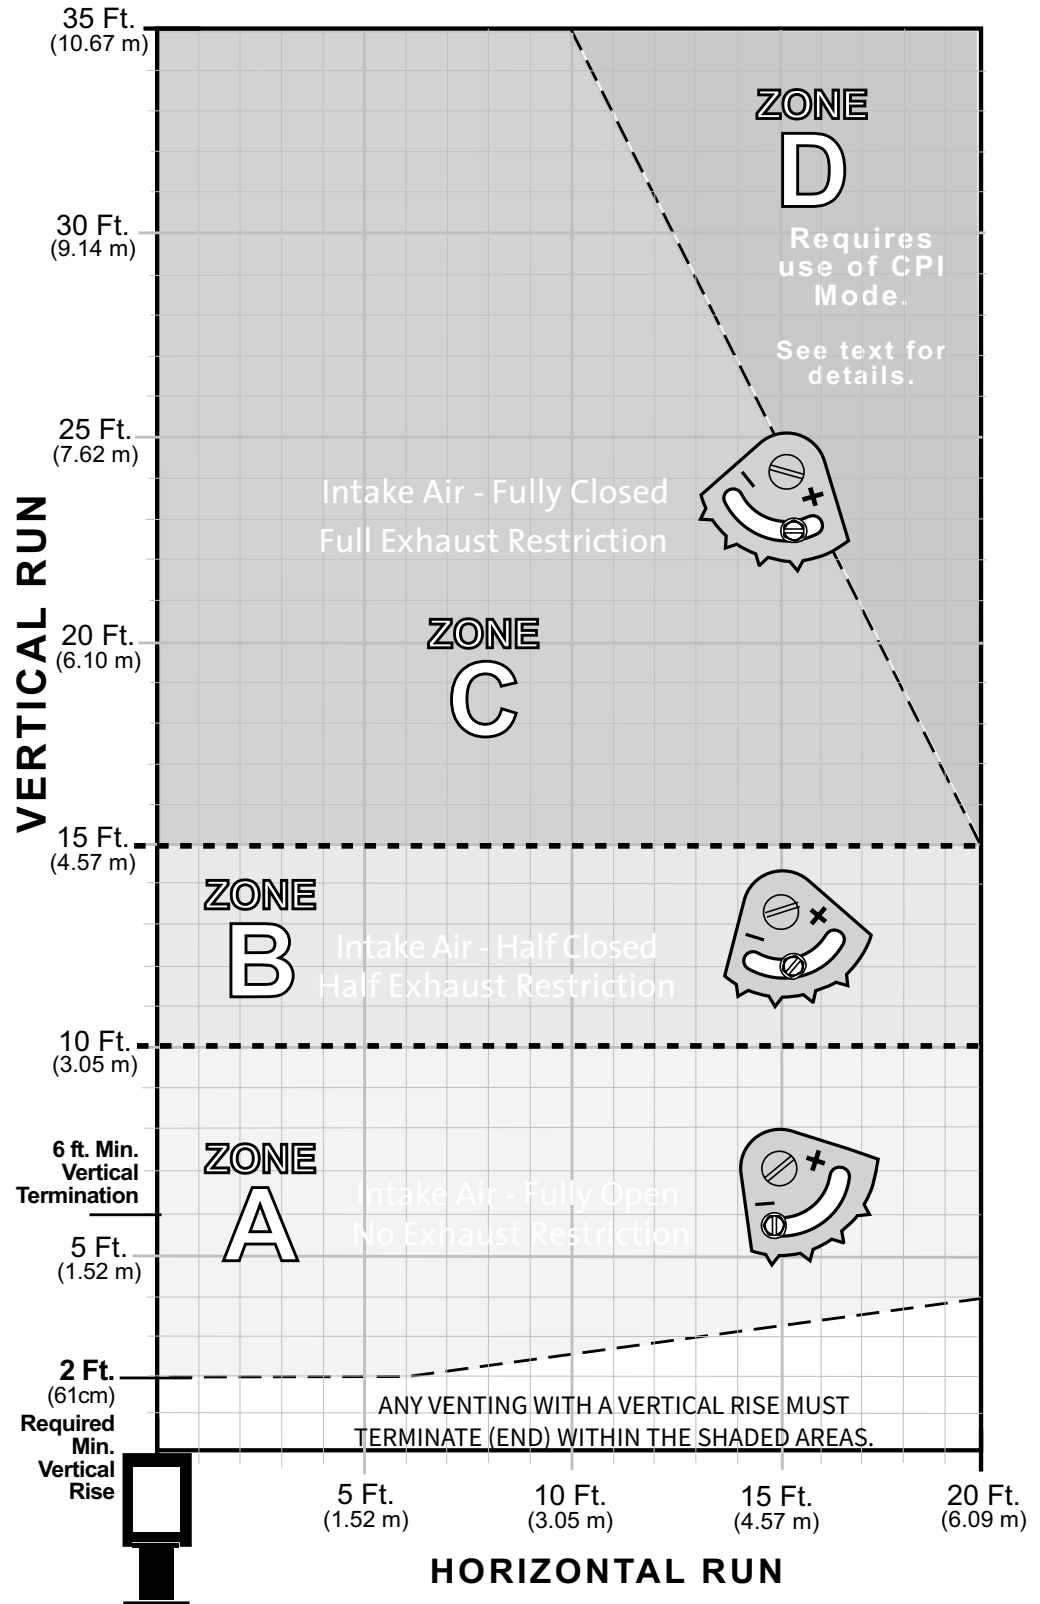

Figure 17. Vent Termination Diagram.
Use the Vent Termination Diagram, fig. 17, to determine which zone your vent termination falls within and make the appropriate exhaust and air intake setting adjustments. Use these settings as general guidelines to start from. The final settings will ultimately be determined by the individual characteristics of your particular installation. There are no hard and fast rules.
2. Loosen the locking screw and turn the restrictor pivot plate to the appropriate indicator point as specified in the vent window diagram, figure 17. After the burner has been operating for 15 minutes, make any further adjustment in 1/8" increments until the desired flame picture is achieved. **Do not exceed the fully closed setting as shown in fig. 15.** Operate the burner for 10-15 minutes between additional adjustments.